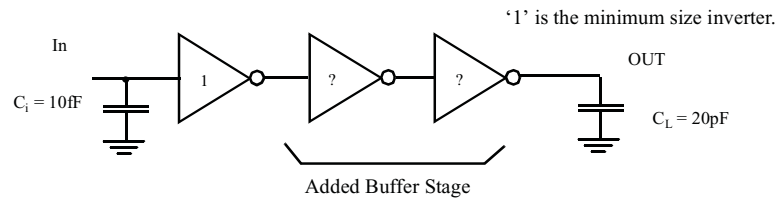

Figure 5.12 Buffer insertion for driving large loads.
- a. In order to drive a large capacitance ($C_L = 20$ pF) from a minimum size gate (with input capacitance $C_i = 10$ fF), you decide to introduce a two-staged buffer as shown in Figure 5.12. Assume that the propagation delay of a minimum size inverter is 70 ps. Also assume